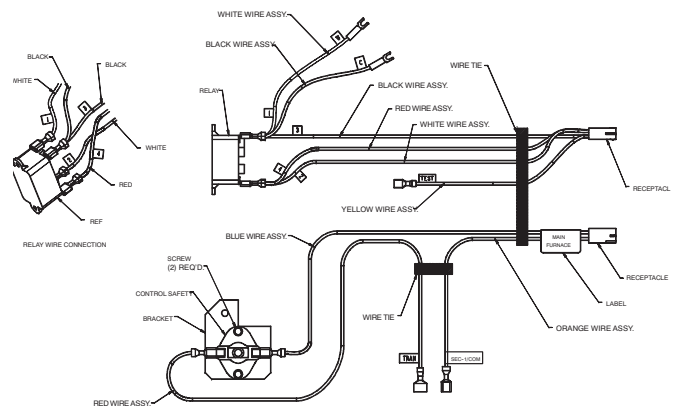
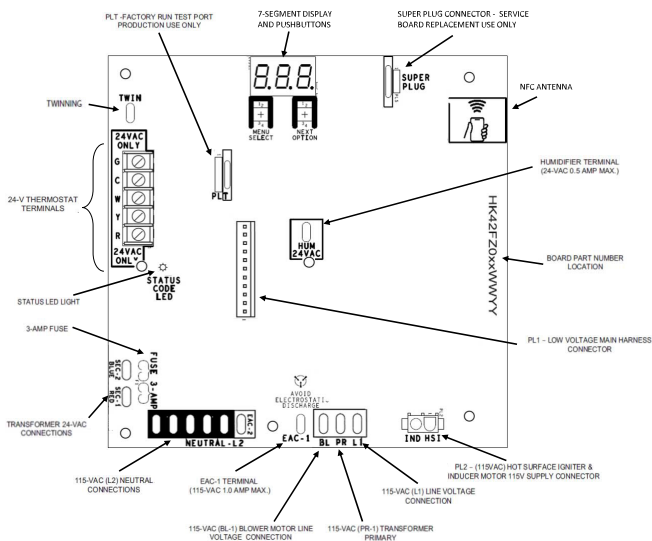

Fig. 17 – Main Harness
Fig. 19 – Example of Furnace Control
The Main Twinning Kit harness is identified by a white label marked "MAIN" on the label near the two pin receptacle of the Main Auxiliary Limit Switch (ALS-M) leads. The Twinning Kit Relay (TKR) and Main Auxiliary Limit Switch (ALS-M) mount to the blower housing as shown in Fig. 15. The individual leads are labeled on the harness. (See Fig. 17) Refer to Fig. 19 location of control board components. Connect the Main Twinning Kit harness to furnace control board as follows:
- c. For operation of two-stage furnaces with a single-stage or two-stage thermostat, connect the White wire with the fork terminal on the TKR to the “W/W1” terminal on the thermostat strip of the Main furnace control board. Refer to Fig. 19 and Thermostat Connections section for details.